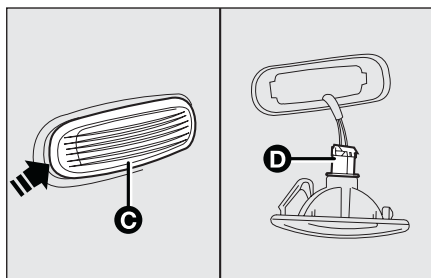

fig. 24
- ☐ lever in the point shown by the arrow in order to compress the fastening spring and extract the unit **C-fig. 24**;